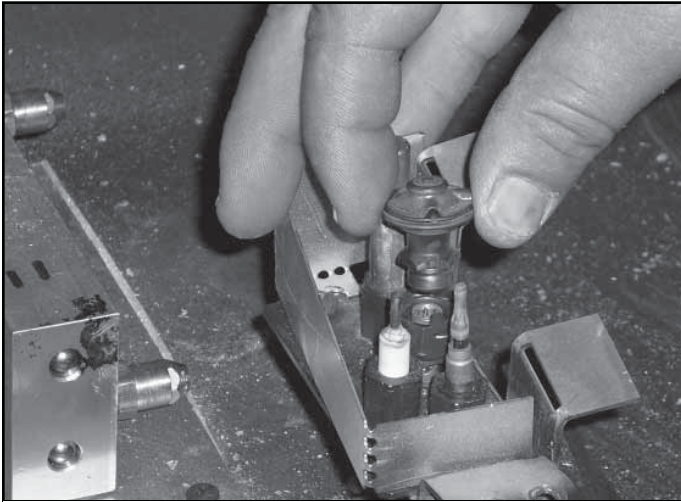

Figure 12.5 Remove Pilot Hood
- Pull hood keeper from pilot and lift hood off pilot assembly. See Figure 12.5.